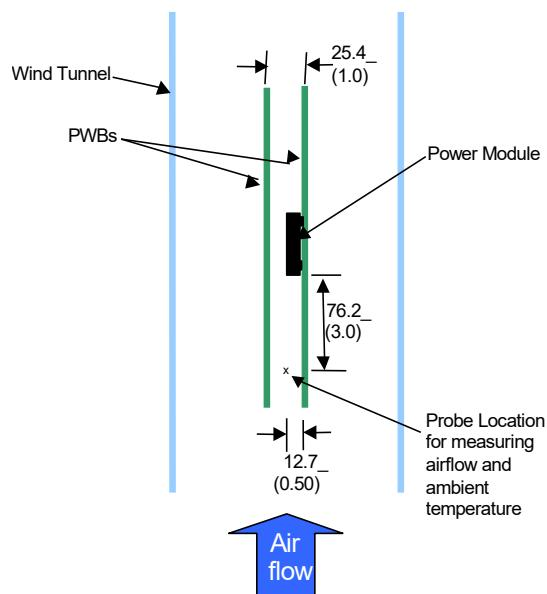

Figure 34. Thermal Test Setup.
Power modules operate in a variety of thermal environments; however, sufficient cooling should always be provided to help ensure reliable operation. Considerations include ambient temperature, airflow, module power dissipation, and the need for increased reliability. A reduction in the operating temperature of the module will result in an increase in reliability. The thermal data presented here is based on physical measurements taken in a wind tunnel. The test set-up is shown in Figure 34. The preferred airflow direction for cooling the module and the thermal reference points, Tref used in the specifications are shown in Figure 35. For reliable operation the temperatures at these points should not exceed 120°C (IC300) and 115°C (C202). The output power of the module should not exceed the rated power of the module ( $V_{o,\text{set}} \times I_{o,\text{max}}$ ). Please refer to the Application Note "Thermal Characterization Process for Open-Frame Board-Mounted Power Modules" for a detailed discussion of thermal aspects including maximum device temperatures. Increased airflow over the module enhances the heat transfer via convection. The thermal derating of figures 2, 8, 14 and 20 show the maximum output current that can be delivered by each module in the indicated orientation without exceeding the maximum Tref temperature versus local ambient temperature (TA) for several air flow conditions. The thermal derating curves were generated using a 12 layer evaluation board with 3oz copper in inner layers and 2 oz in outer layers.